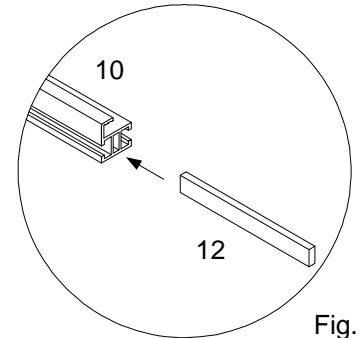

Fig. 6
- Ensure that all clamps (7) and screws (3, 9) are firmly in place.
- If more than one support profile (10) has to be connected together a connecting piece (12) is inserted into the corresponding profile guide (Fig. 6).